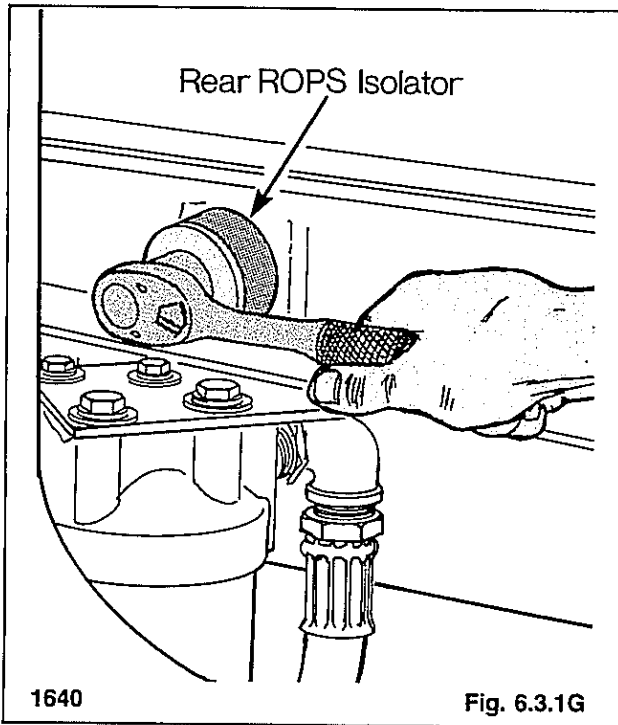

Fig. 6.3.1G
9. Remove the two rear ROPS isolators (Fig. 6.3.1G).